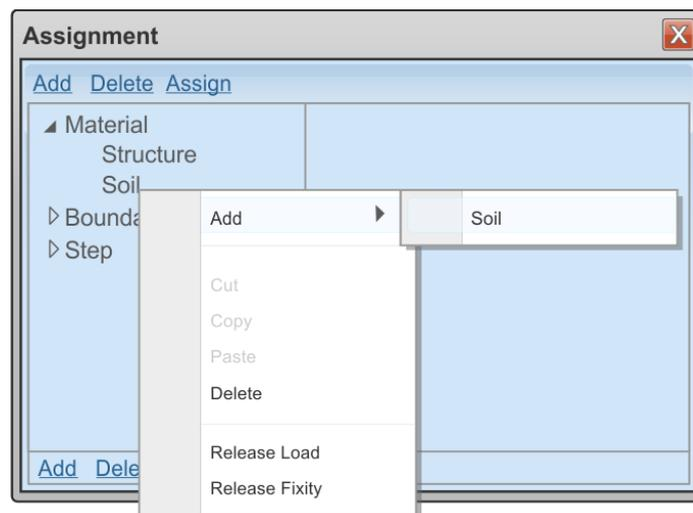

Figure 30. Assignment of materials.
Assignment of materials option is under **Assignment** menu. Materials are categorized into two groups: **Soil** and **Structure**, as shown in Figure 30. **Soil** material is for solid continuum elements (e.g. triangular elements in 2D and tetrahedral elements in 3D analysis) and **Structure** material is for bar/beam type of elements. The steps to create the material database are:
2. Right click and select **Add/Delete** to add materials to the list or to delete them from the database, as shown in Figure 30.